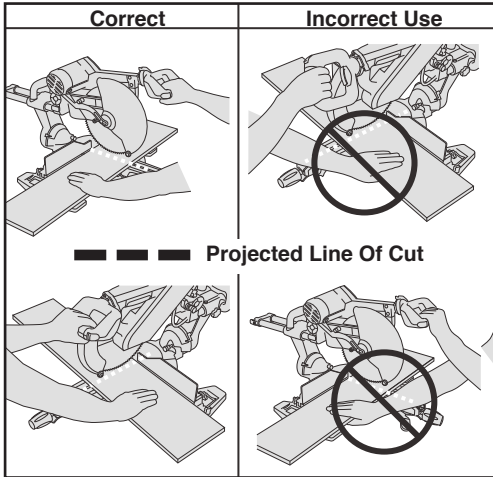

Figure 19. Hand Positions
**▲ WARNING** Position your body and hands properly to make cutting easier and safer. Observe the following instructions (Figure 19).